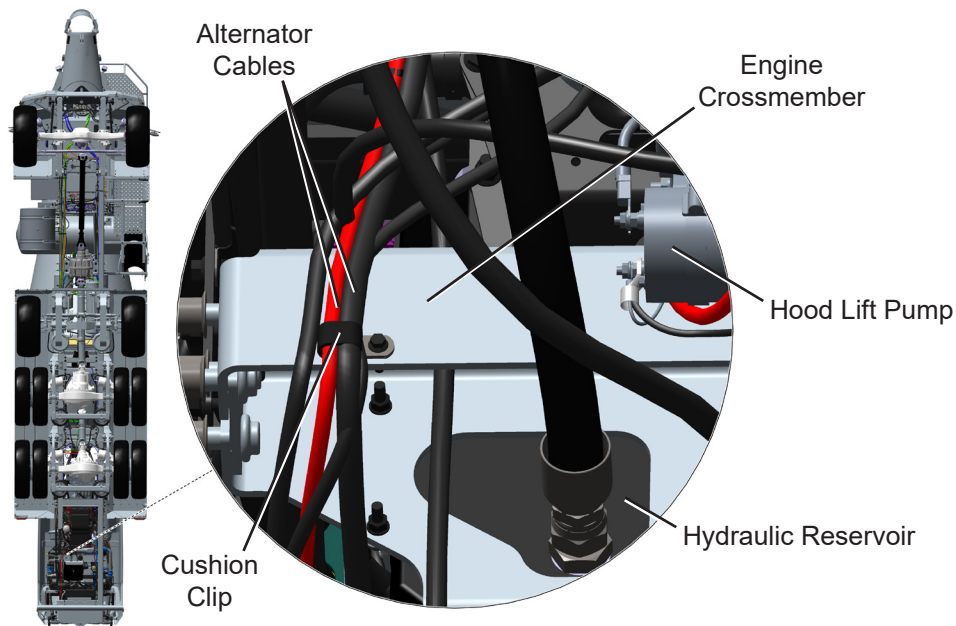

Figure 3
9. Locate cushion clip securing engine alternator cables to rear engine crossmember. See Figure 3.
10. Loosen and remove 0.25-20 x 1.0 inch screw and lock nut securing cushion clip to rear engine crossmember. See Figure 3.